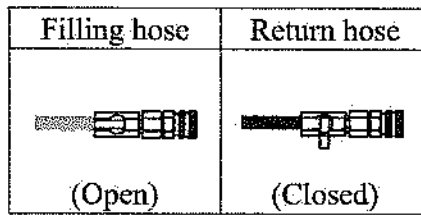
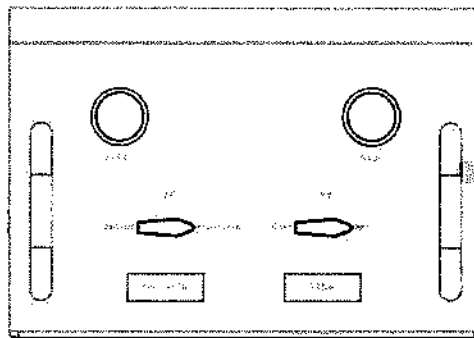

Fig. 8
Fig.9
5. Close return hose valve, and open filling hose valve (Fig.8). New coolant will be sucked to the vehicle by negative pressure in vehicle. When proper coolant level is reached, turn all valves to OFF position;
6. Start the engine, and check coolant level. If coolant level drops, turn left panel valve "AIR FLOW" to "Pressurize" position, right panel valve "TANK" to "New" position (Fig.9), open filling hose valve (Fig.8), and then open shop air valve to add more new coolant to vehicle through overflow tank.
5. Start the engine, and check coolant level. If coolant level drops, turn left panel valve "AIR FLOW" to "Pressurize" position, right panel valve "TANK" to "New" position (Fig.9), open filling hose valve (Fig.8), and then open shop air valve to add more new coolant to vehicle through overflow tank.